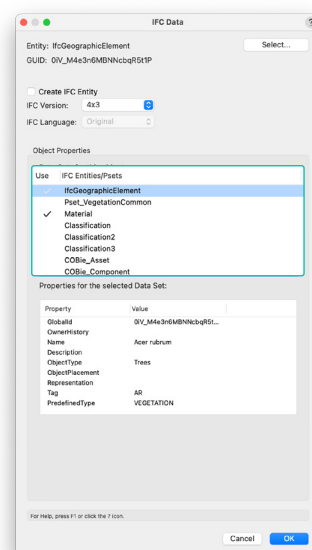

FIGURE 19B
2. The data sets assigned to the object, referred to as property sets, or pSets (Fig. 19B). A check mark under the **Use** column indicates that this data set is attached to the object.